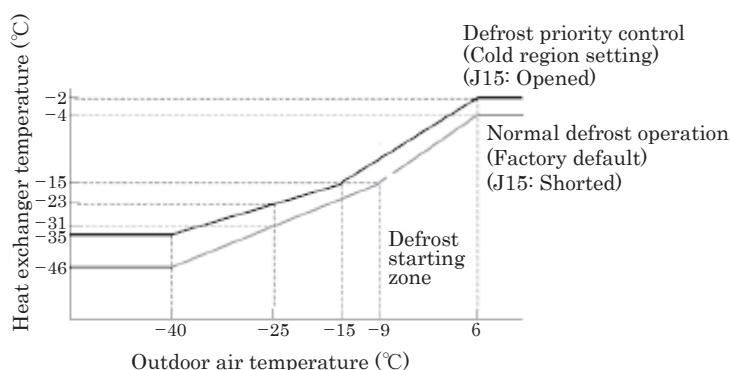

Fig 1-1 Defrost starting condition by temperature sensor Tho-R1 or -R2
- d) Either one of temperature sensors on the inlet of heat exchanger (Tho-R1, -R2) detects lower temperature than the defrost starting temperature, which is decided by the outdoor air temperature, for 30 seconds continuously. (Fig 1-1)